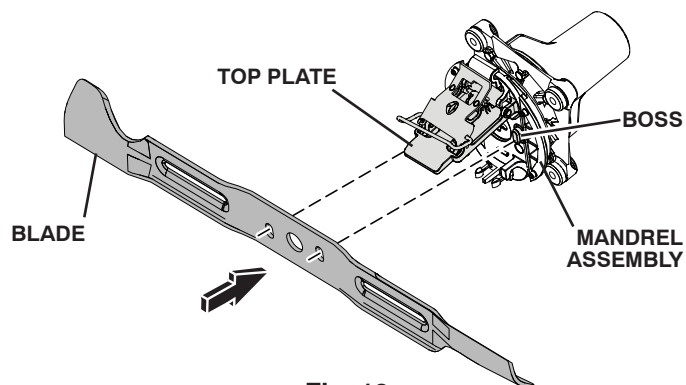

Fig. 19
- Align bosses and insert blade. (See Fig. 19.)